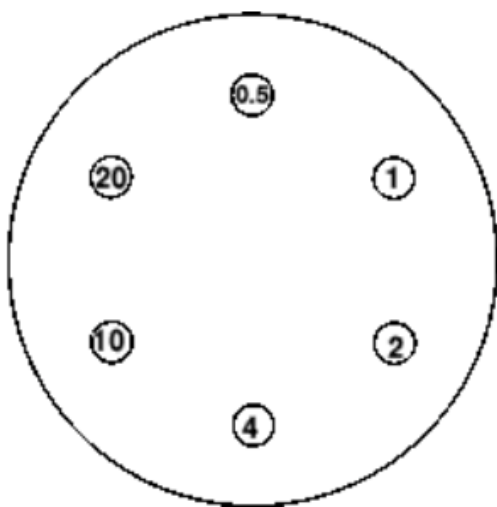

Figure 1
8.13. Add 10 µL of the diluted antimicrobial solutions to the center of the disk (one disk per concentration) as stated in figure 1 (only for example).